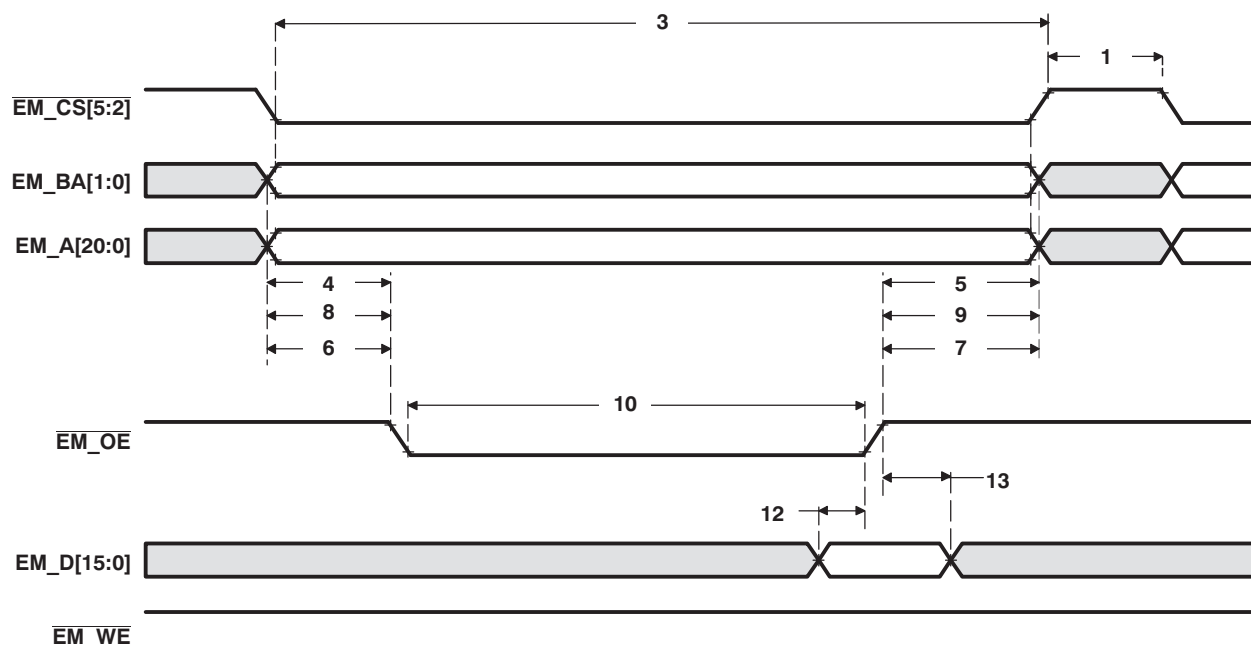
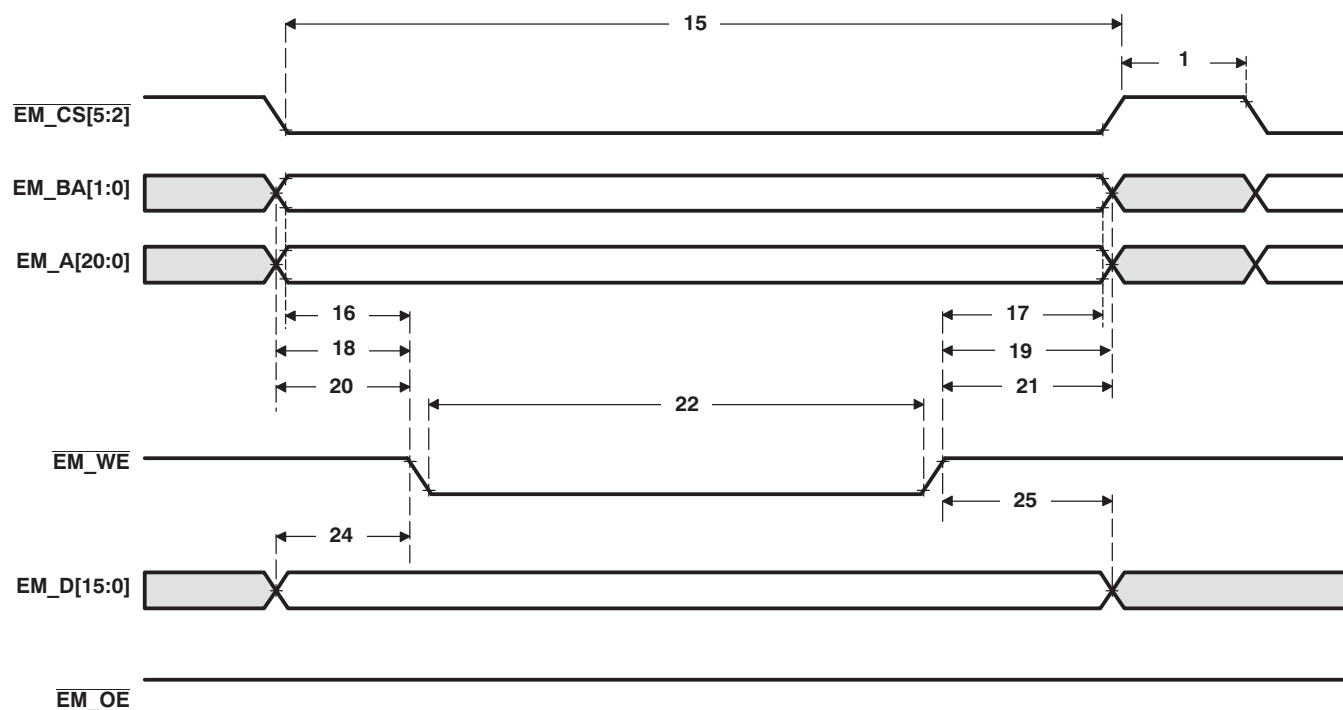
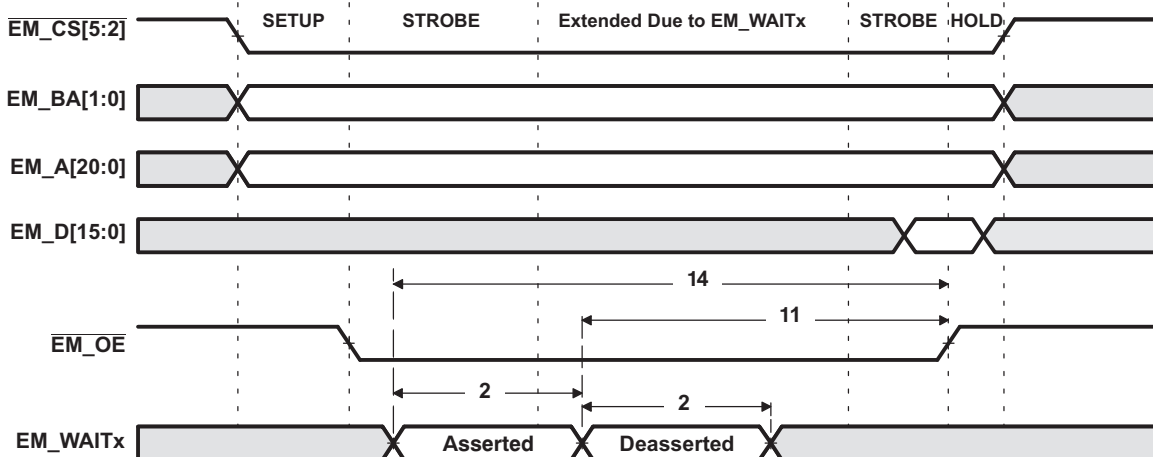
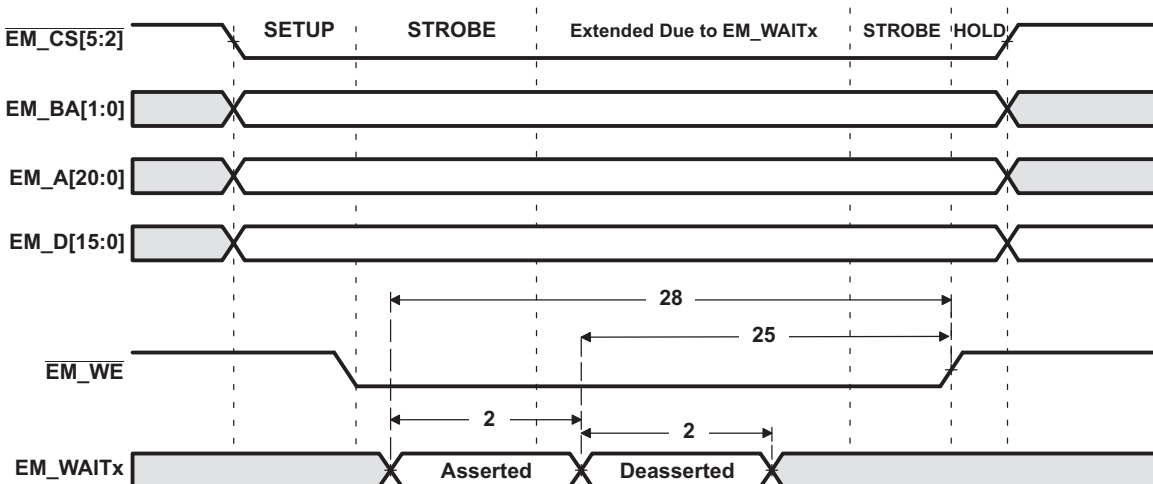

Figure 6-14. Asynchronous Memory Read Timing for EMIF
Figure 6-15. Asynchronous Memory Write Timing for EMIF
Figure 6-16. EM_WAITx Read Timing Requirements
Figure 6-17. EM_WAITx Write Timing Requirements
Table 6-12. Switching Characteristics Over Recommended Operating Conditions for EMIF Asynchronous Memory⁽¹⁾ ⁽²⁾ (see Figure 6-15 and Figure 6-17)⁽³⁾
Table 6-12. Switching Characteristics Over Recommended Operating Conditions for EMIF Asynchronous Memory ⁽¹⁾ ⁽²⁾ (see Figure 6-15 and Figure 6-17) ⁽³⁾ (continued)
Table 6-13. Timing Requirements for EMIF Asynchronous Memory⁽¹⁾ (see Figure 6-14, Figure 6-16, and Figure 6-17)
- (1) E = SYSCLK period in ns, if EMIF is set for "full rate" **or** E = SYSCLK/2 period in ns, if EMIF is set for "half rate" as defined by bit 14 of the EMIF Status register (0x1001h). For example, when EMIF is set to full rate and SYSCLK is selected and set to 100 MHz, E = 10 ns.
- (2) Setup before end of STROBE phase (if no extended wait states are inserted) by which EM_WAITx must be asserted to add extended wait states. Figure 6-16 and Figure 6-17 describe EMIF transactions that include extended wait states inserted during the STROBE phase. However, cycles inserted as part of this extended wait period should not be counted; the 4E requirement is to the start of where the HOLD phase would begin if there were no extended wait cycles.
Table 6-14. Switching Characteristics Over Recommended Operating Conditions for EMIF Asynchronous Memory^{(1) (2) (3)} (see Figure 6-14, Figure 6-16, and Figure 6-17)
Table 6-14. Switching Characteristics Over Recommended Operating Conditions for EMIF Asynchronous Memory ⁽¹⁾ ⁽²⁾ ⁽³⁾ (see Figure 6-14 , Figure 6-16 , and Figure 6-17) (continued)